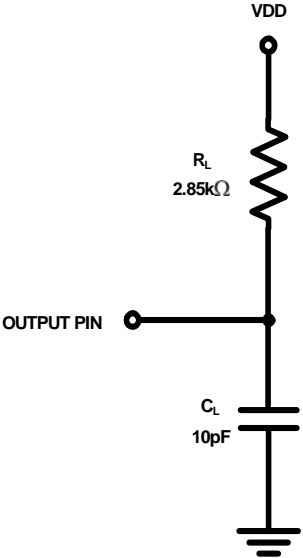

FIGURE 4. EQUIVALENT LOAD CIRCUIT
14. During characterization, t_{DISABLE} is measured from the release point with a 10pF load (see Figure 4).